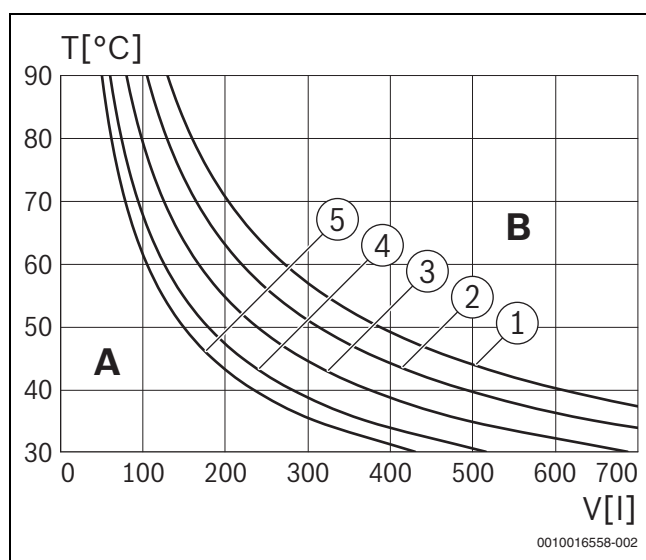

Fig. 5 Curves for the expansion vessel
- Plot a line vertically on the chart (→ Fig. 5).
- Plot a line horizontally on the chart (→ Fig. 5).